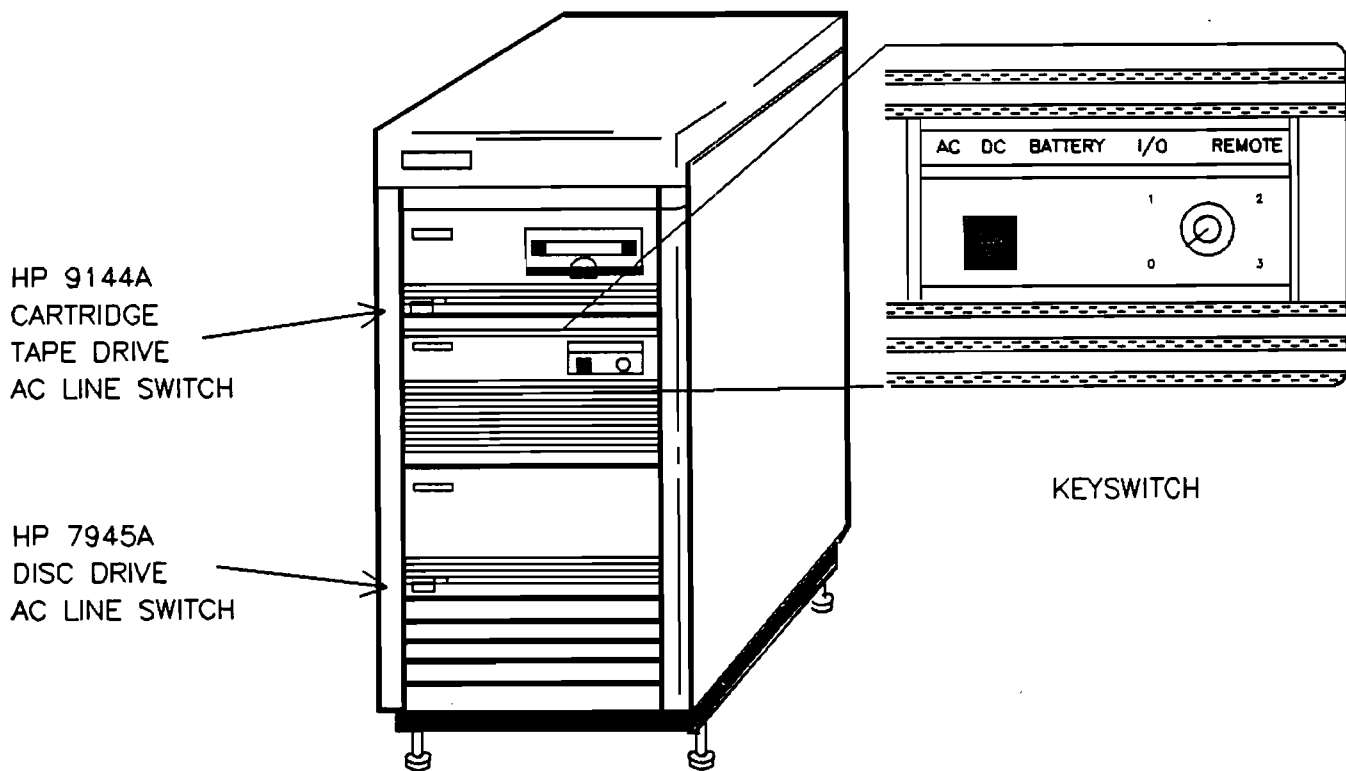

Figure 2-1. Front view of HP 3000 Series 37.
2. Power on the HP 7945A Disc Drive by pressing its power button (AC LINE SWITCH; see Fig. 2-1) into the recessed position. The red and green lights on the right front will flicker as the drive starts up; the green light will remain on after that. Note: if you have connected a second HP 7945A do not turn it on at this time; if it is turned on then turn it off; you will be instructed to turn it on at the end of the installation procedures.
3. Power on the HP 9144A Cartridge Tape drive by pressing its power button (AC LINE SWITCH; see Fig. 2-1) into the recessed position. The green and red lights on the right front (BUSY and FAULT lights; see Fig. 3-1) will flicker for a short time and then both will turn off.